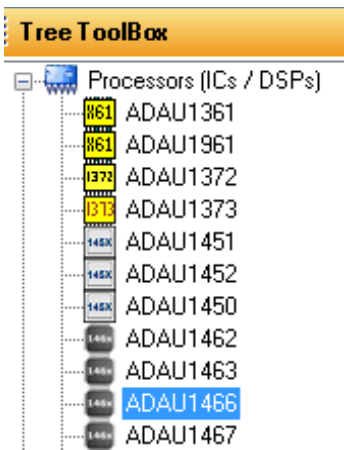

Figure 15. Adding an ADAU1466
This user guide details the design, setup, and operation of the EVAL-ADAU1466Z evaluation board. This device is suitable for evaluation of, and software development for, the **ADAU1466** and **ADAU1462 SigmaDSP** processors. Note that the **ADAU1466** and the **ADAU1462** are functionally identical, except that the **ADAU1466** has more program and data memory than the **ADAU1462**. When using this evaluation board to evaluate the **ADAU1462**, in the Setting Up Communications in SigmaStudio section, select the **ADAU1462** block rather than the **ADAU1466** as shown in Figure 15. Performing this action informs the compiler to limit the amount of memory allocated to match the **ADAU1462**. All other procedures and instructions in this user guide are identical for the **ADAU1462** and **ADAU1466**.
- b. Add an **ADAU1466** component from the **Processors (ICs / DSPs)** subsection of the toolbox (see Figure 15).